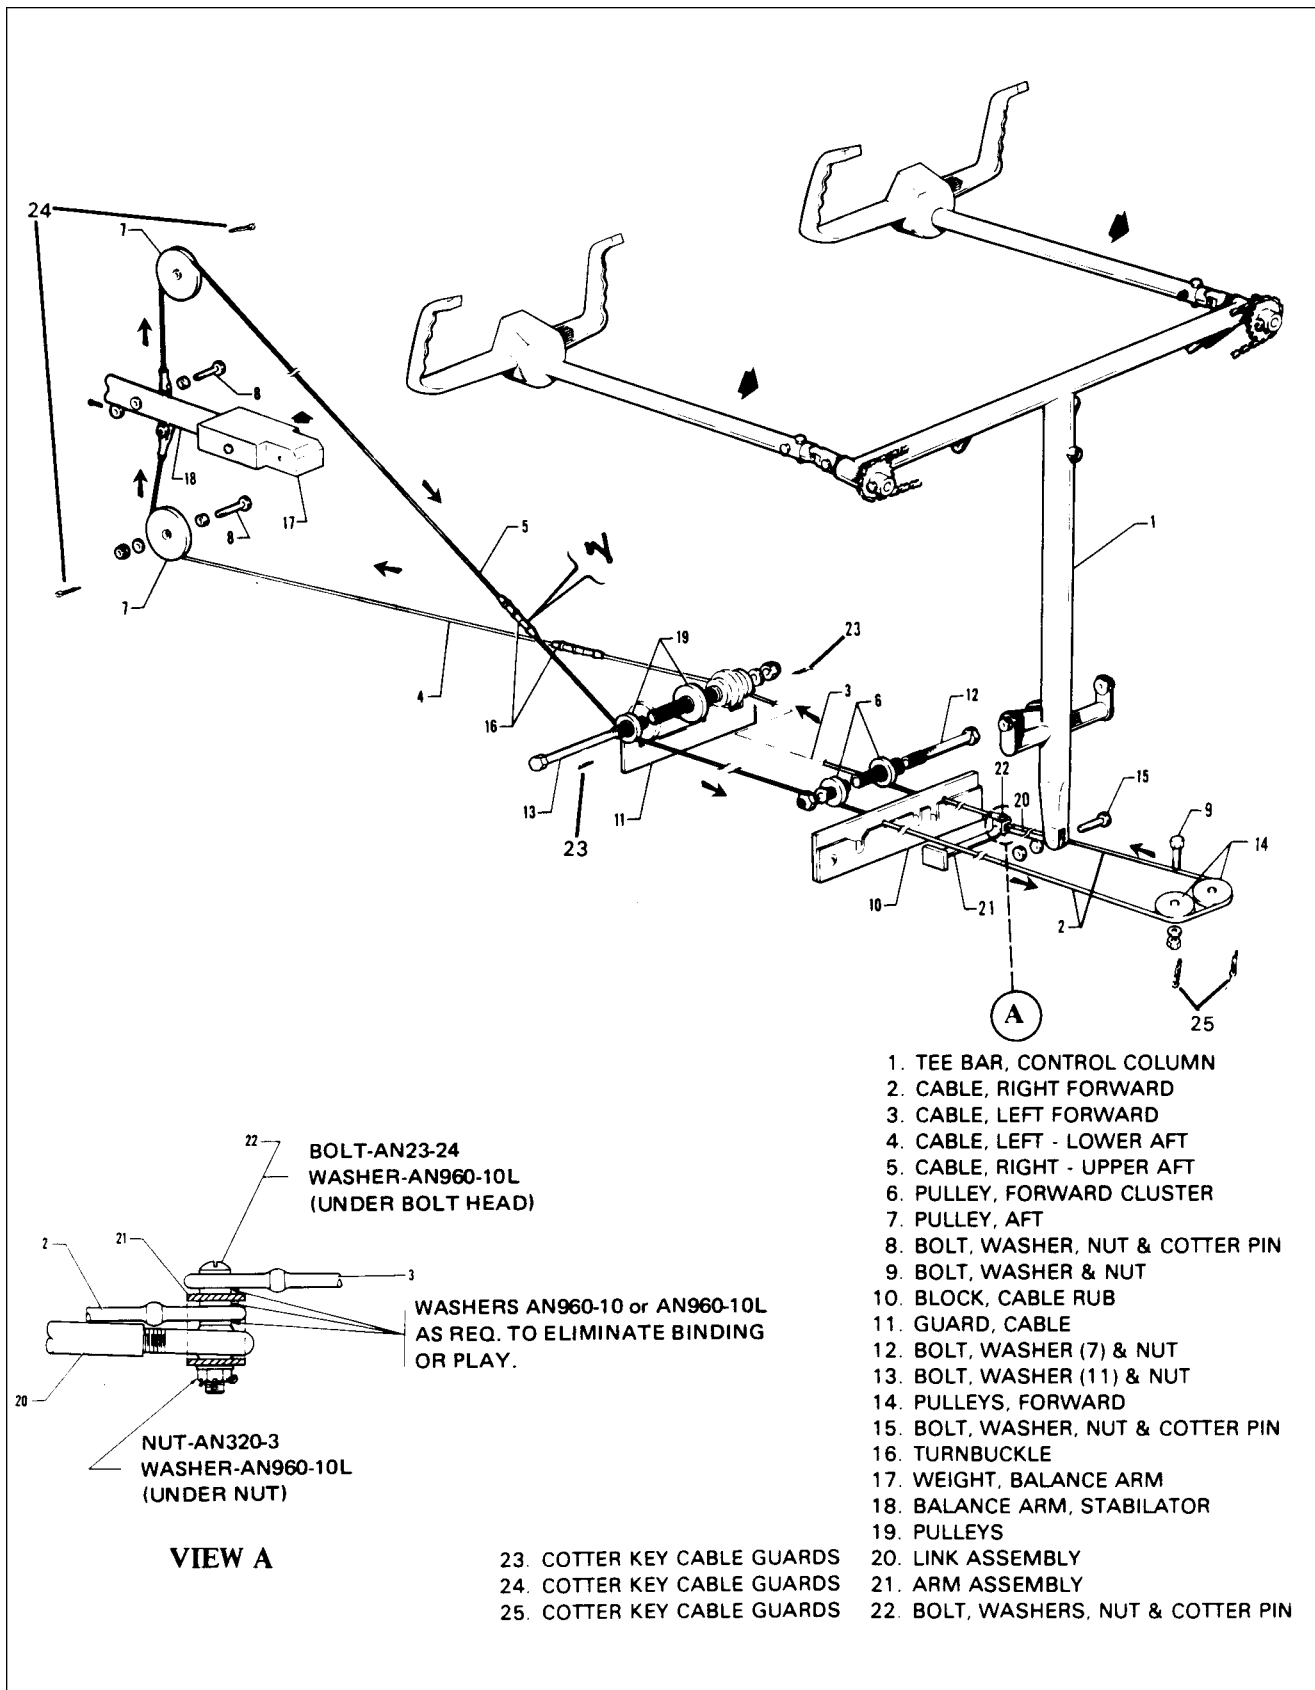

Figure 5-6. Stabilator Controls
5-14. REMOVAL OF STABILATOR CONTROL CABLES. (Refer to Figure 5-6.)
5-15. INSTALLATION OF STABILATOR CONTROL CABLES. (Refer to Figure 5-6.)
- 1. Draw the control cable through the floor tunnel. Ascertain that the right (upper) cable (2) is routed around the pulleys (14) in the forward area of the floor tunnel.
- 2. Position the stabilator cables (2 and 3) into the arm assembly (21) along with the link assembly (20). (Refer to Figure 5-6 View A for correct positioning of components.) Secure the complete installation with bolt, washers, nut and cotter pin (22). Ascertain that no binding or excessive end play is evident in the hookup.
- 4. Connect the control cable to the aft cable at the turnbuckle (16) in the aft section of the fuselage. Apply partial tension to cable to keep it positioned on pulleys.
- 5. For the right control cable (2), install the cotter pin cable guards at the pulley(s) (14) in the forward area of the tunnel.
- 6. Within the access opening aft of the main spar, install the cable run blocks (10) to the spar housing and secure with screws.
- 7. In the access opening, install the cotter pin cable guard at the pulley cluster (6).